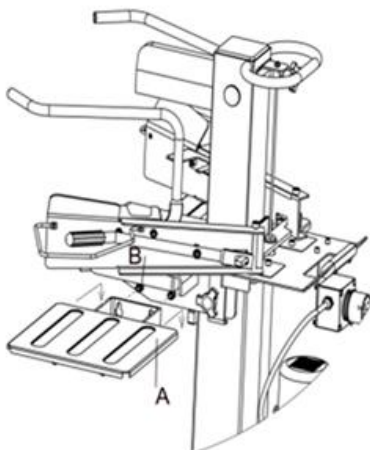

Fig. 7
4.2.5- Mounting the right and left storage trays (Fig.7)